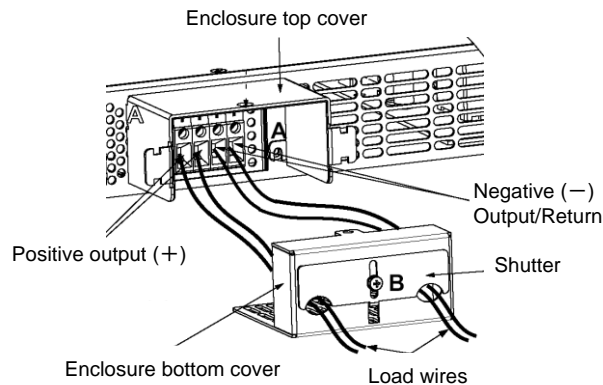

Fig.2-7: Mounting for Output protect cover
4. Loosen the chassis screw marked "A" halfway as shown in Fig.2-7.
- ◆ Refer to Fig.2-7.